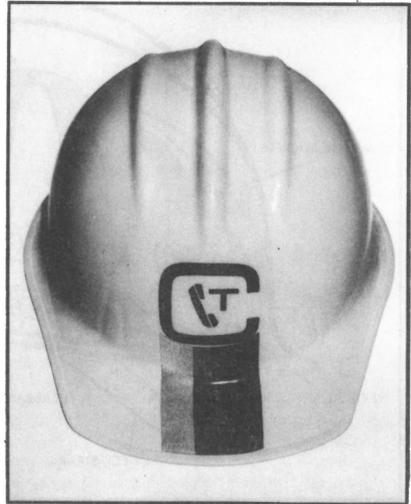

FIGURE 1. Safety Cap
2.01 The safety cap consists of a molded, high-impact white plastic shell equipped with detachable suspension which is adjustable to different head sizes. The Continental Telephone logo is embossed on the front; pressure sensitive reflective strips (avocado and orange) are located on the front and back of the shell for night safety visibility and conformance to Company identification. A glare resistant underbrim is furnished. The safety cap is illustrated in Figure 1 and shall be worn by all